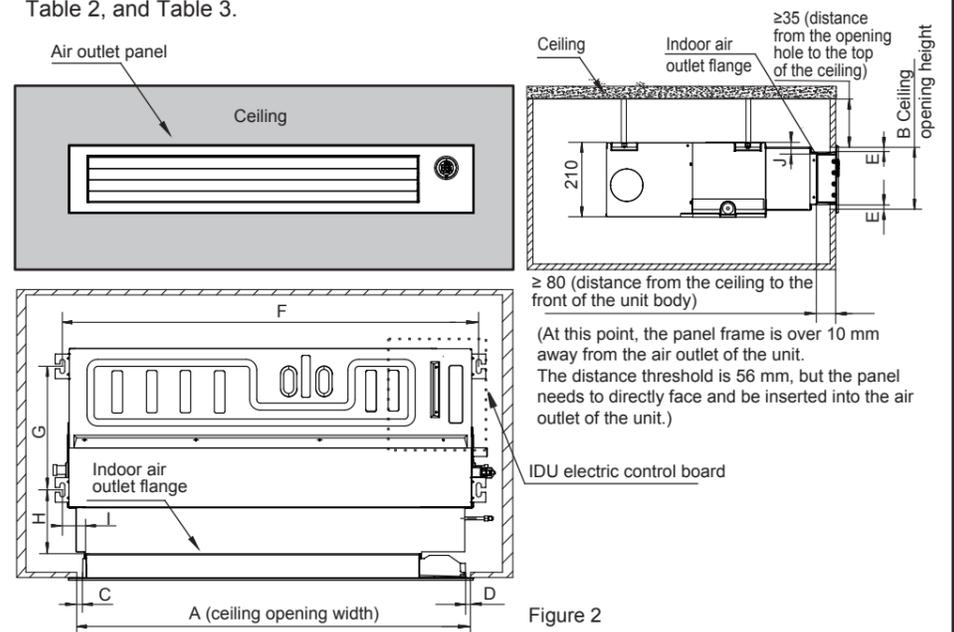

Figure 2
2. To install the panel, the reserved opening hole sizes for the ceiling are shown in Figure 2, Table 2, and Table 3.
- Check whether the ceiling opening size, and the position of the air outlet of the IDU and the ceiling opening meet the requirements specified in Figure 2.